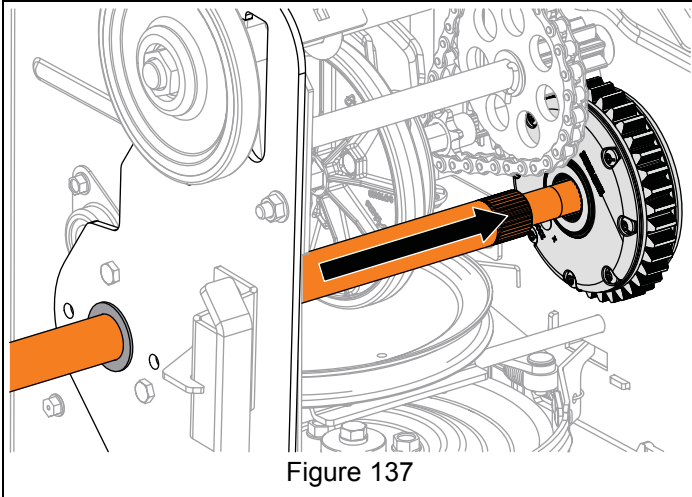

Figure 137
3. Reinstall stepped-down end of long axle through side plate, frame and into differential gear. See Figure 137.